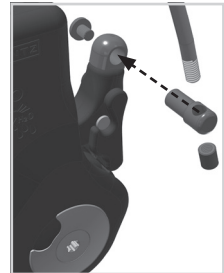

fig. 6
- 2 Place the pulling cable holder (4) into the bore of the retainer for pulling cable holder (fig. 6).
- 3 Secure the pulling cable holder with the pan head screw (1). Secure the pan head screw with LOCTITE® 243 medium strength.
- 4 Secure the threaded sleeve (5) on the pulling cable (3).